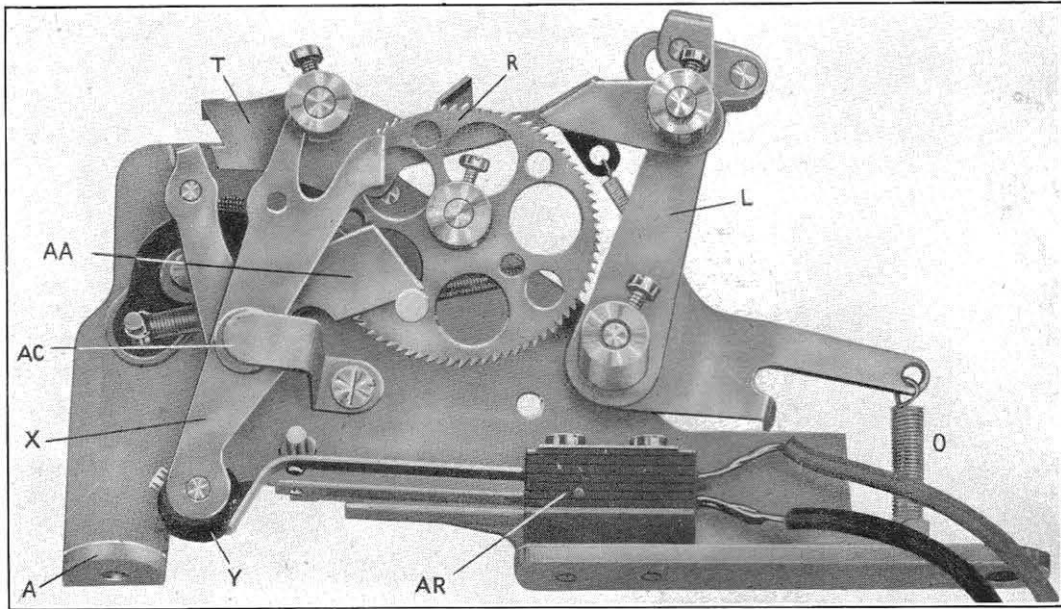

FIG. 10. COUNTER UNIT S.2084 (APPROX. 1 1/4 TIMES FULL SIZE).
- (a) A counter mechanism (Fig. 10), which is secured underneath the message desk to the back of the main frame casting, and consists essentially of a ratchet wheel controlling a pair of contacts.
COUNTER UNIT S2084 (See Figs. 10 and 11)